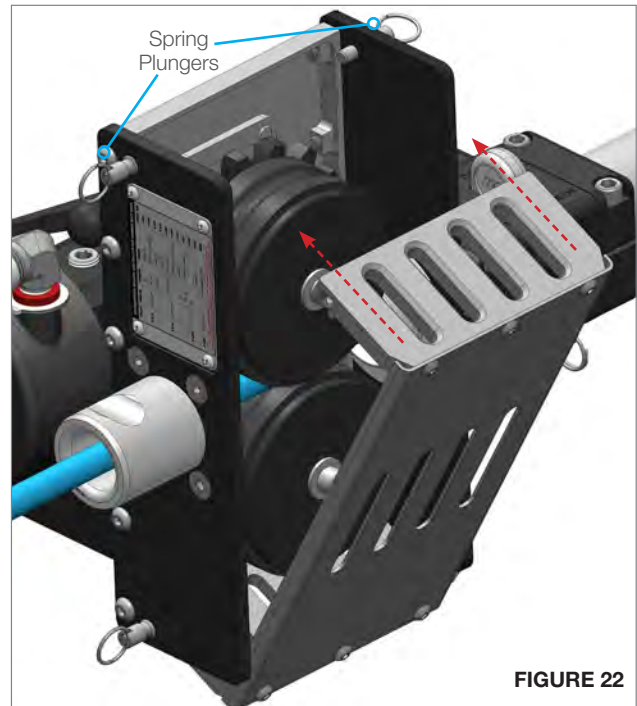

FIGURE 22
33. Push the back cover back into the closed position and secure the two Spring Plungers on the top of the ABX-PRO Tractor. **(Figure 22)**